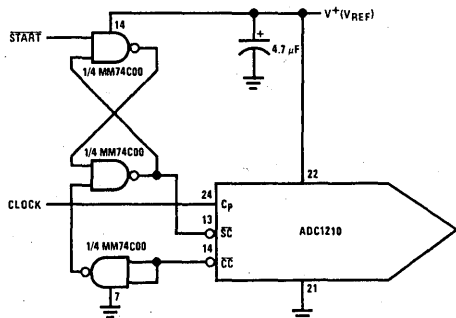

FIGURE 8. Synchronizing the $\overline{\text{START}}$ Pulse
To assure reliable conversion accuracy, the $\overline{\text{START}}$ (SC) pulse applied to pin 13 of the ADC1210 should be synchronized to the conversion clock. One simple way to do that is the circuit shown in Figure 8. Note that once a conversion cycle is initiated, the $\overline{\text{START}}$ signal cannot effect the conversion operation until it is completed.